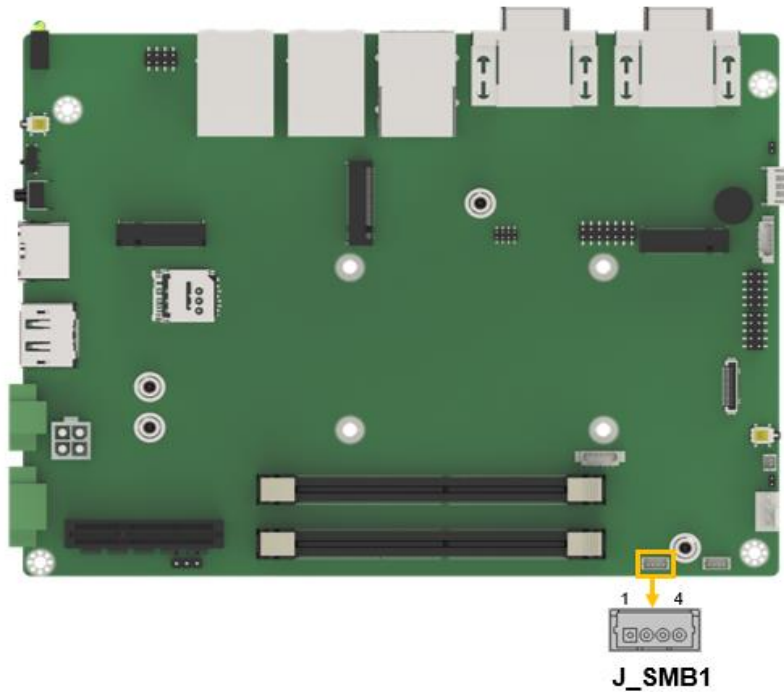

Figure 4-17: SMBus Connector Location
- CN Location:** See **Figure 4-17**